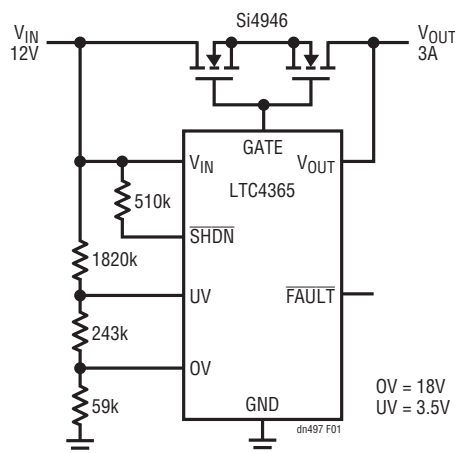
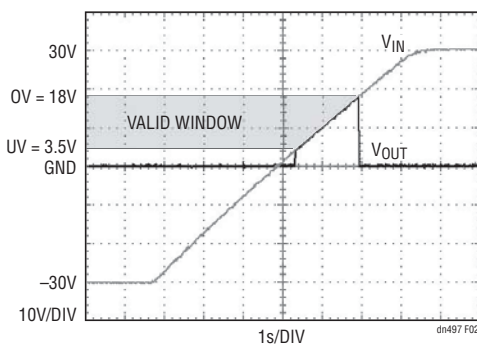

Figure 1. Complete 12V Automotive Undervoltage, Overvoltage and Reverse-Supply Protection Circuit
Figure 2. Load Protection as V_{IN} Is Swept from -30V to 30V
Figure 1 shows a complete application. A resistive divider sets the overvoltage (OV) and undervoltage (UV) trip points for connecting/disconnecting the load from V_{IN} . If the input supply wanders outside this voltage window, the LTC4365 quickly disconnects the load from the supply.
Figure 2 shows how the circuit of Figure 1 reacts as V_{IN} slowly ramps from -30V to 30V . The UV and OV thresholds are set to 3.5V and 18V , respectively. V_{OUT} tracks V_{IN} when the supply is inside the 3.5V to 18V window. Outside of this window, the LTC4365 turns off the N-channel MOSFET, disconnecting V_{OUT} from V_{IN} , even when V_{IN} is negative.